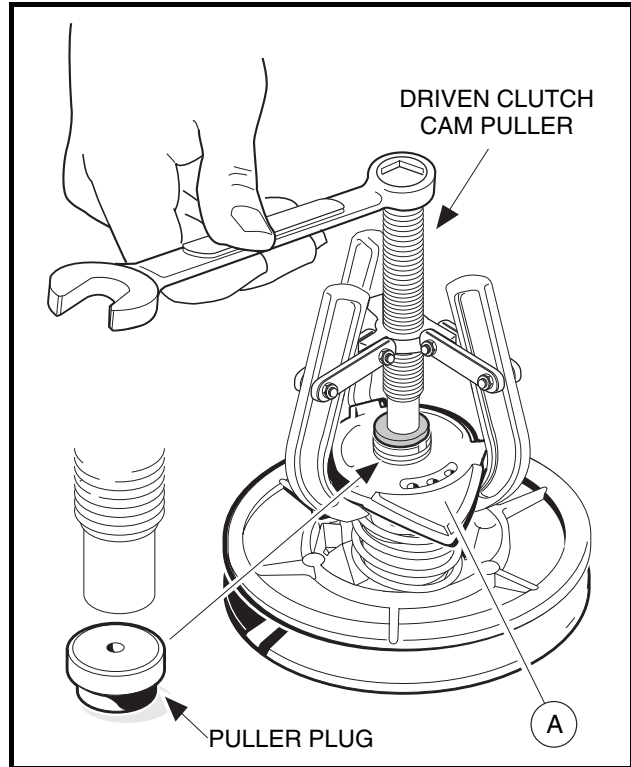
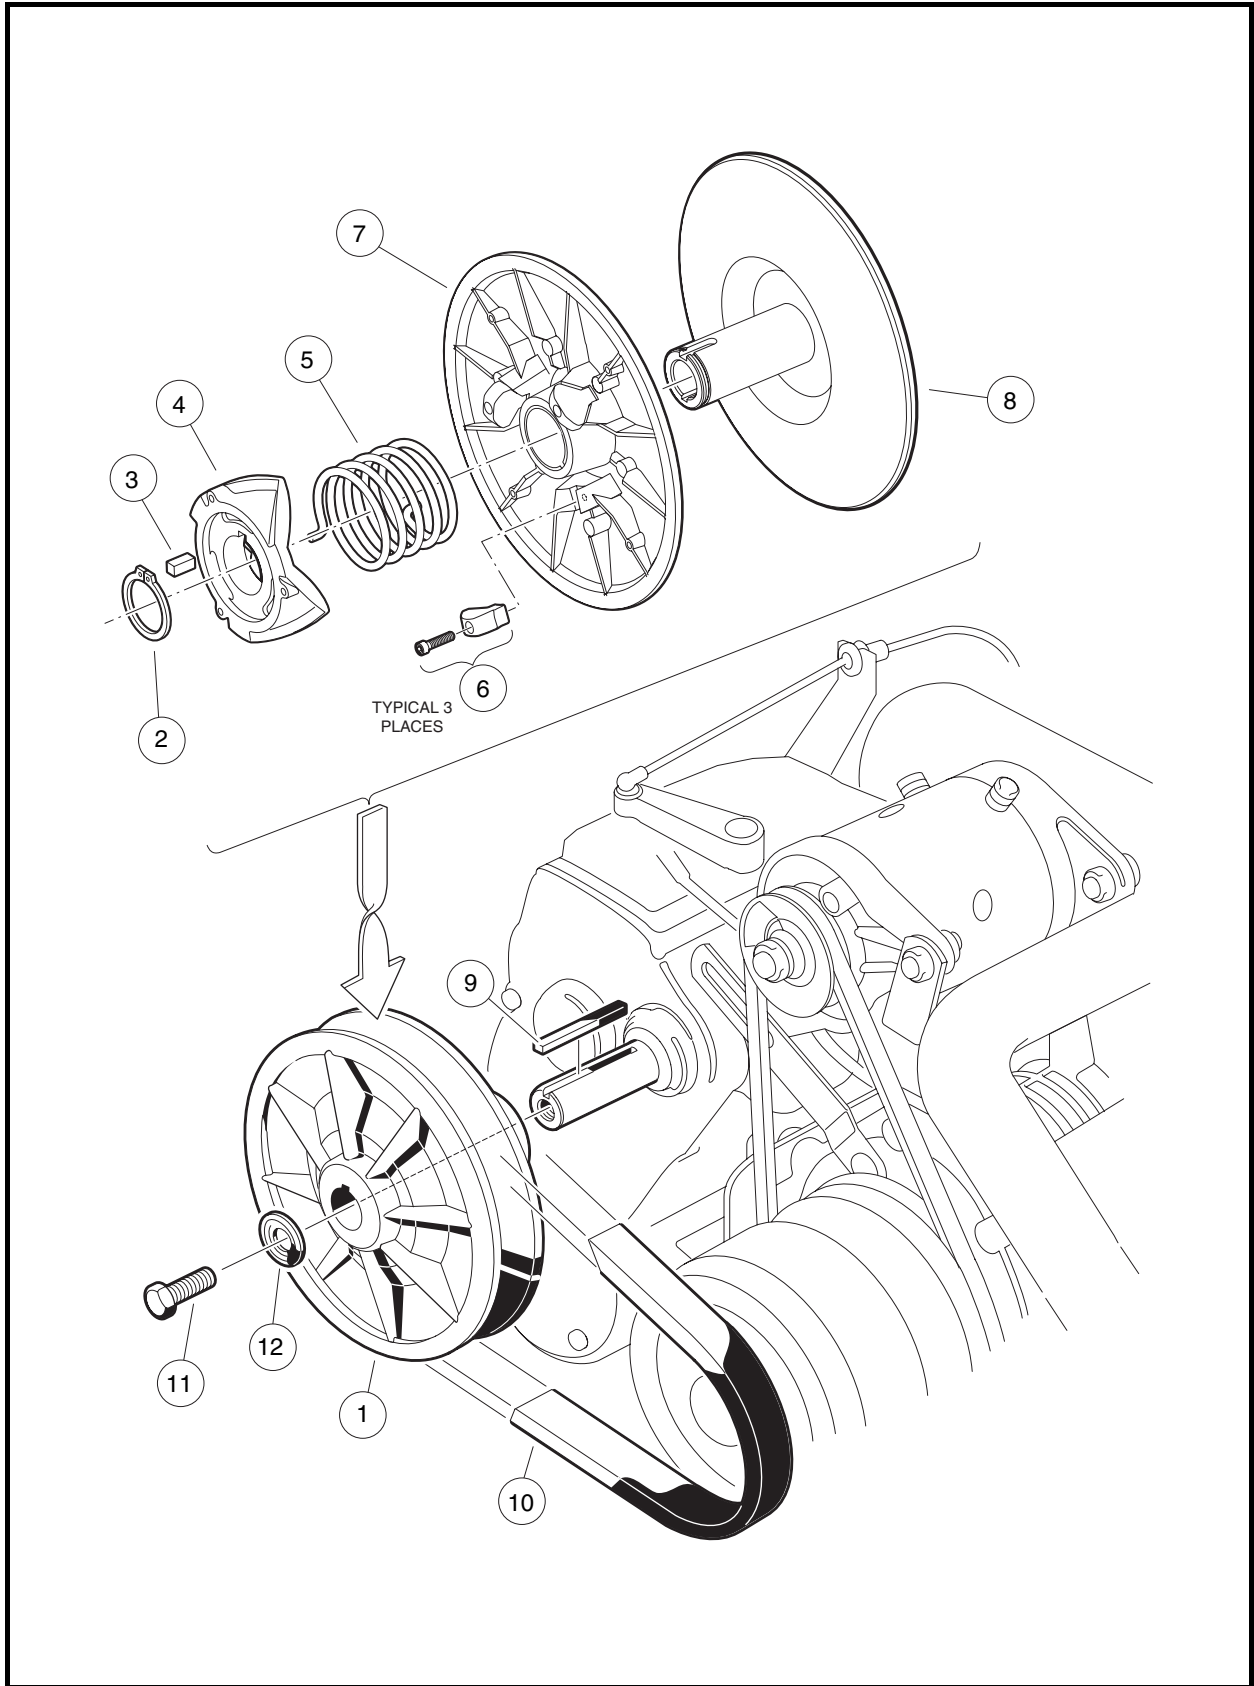

Figure 17-17 Driven Clutch Disassembly
Figure 17-18 Driven Clutch Assembly
2. Remove the bolt (11) and mounting washer (12) from the clutch shaft (**Figure 17-18, Page 17-14**).
4. Leave the key (9) in the keyway.
2. Insert a puller plug (CCI P/N 1014507) (**Figure 17-17, Page 17-13**) into the shaft bore and use a driven clutch cam puller (CCI P/N 1014508) to remove the cam (4) from the fixed face shaft (8) (**Figure 17-18, Page 17-14**).
3. Remove the spring (5) (**Figure 17-18, Page 17-14**).
4. Retain the key (3).
5. Slide the moveable face (7) off the fixed face shaft (8).
1. Inspect the cam (4) for excessive wear. Replace it if necessary (**Figure 17-18, Page 17-14**).
2. Inspect the drive buttons (6) for excessive wear. Replace if necessary. To remove the drive buttons, remove the socket-head cap screws and then the buttons.
1. Place the three drive buttons (6) in position. Apply one drop of Loctite[®] 222 to each of the socket-head cap screws and then install and tighten them to 8 in-lb (0.9 N·m) (**Figure 17-18, Page 17-14**).
2. Slide the moveable face assembly (7) onto the fixed face shaft (8).
3. Place the end of the spring (5) into the hole in the moveable face assembly.
4. Install the key (3) into the keyway of the fixed face assembly (8) shaft.
- 5.1.3. Install the retaining ring (2) (**Figure 17-18, Page 17-14**). **See following NOTE.**
1. To install the driven clutch, reverse the removal procedure. Make sure that the washer (12) is mounted with the flat portion of the washer against the driven clutch (**Figure 17-18, Page 17-14**). Secure with a new bolt (11). **See following NOTE.**